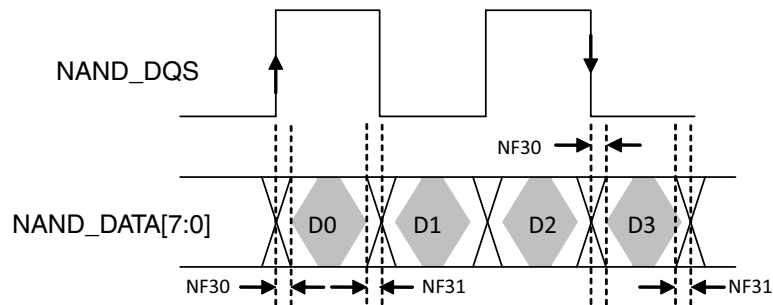

Figure 31. NAND_DQS/NAND_DQ Read Valid Window
For DDR Source sync mode, Figure 31 shows the timing diagram of NAND_DQS/NAND_DATAxx read valid window. The typical value of tDQSS is 0.85ns (max) and 1ns (max) for tQHS at 200MB/s. GPMI will sample NAND_DATA[7:0] at both rising and falling edge of an delayed NAND_DQS signal, which can be provided by an internal DPLL. The delay value can be controlled by GPMI register GPMI_READ_DDR_DLL_CTRL.SLV_DLY_TARGET (see the GPMI chapter of the i.MX 6Solo/6DualLite reference manual). Generally, the typical delay value of this register is equal to 0x7 which means 1/4 clock cycle delay expected. But if the board delay is big enough and cannot be ignored, the delay value should be made larger to compensate the board delay.
- ⁷ Shown in Figure 31, NAND_DQS/NAND_DQ Read Valid Window.
For DDR Toggle mode, Figure 31 shows the timing diagram of NAND_DQS/NAND_DATAxx read valid window. The typical value of tDQSQ is 1.4 ns (max) and 1.4 ns (max) for tQHS at 133 MB/s. GPMI will sample NAND_DATA[7:0] at both rising and falling edge of a delayed NAND_DQS signal, which is provided by an internal DPLL. The delay value of this register can be controlled by GPMI register GPMI_READ_DDR_DLL_CTRL.SLV_DLY_TARGET (see the GPMI chapter of the i.MX 6Solo/6DualLite reference manual). Generally, the typical delay value is equal to 0x7 which means 1/4 clock cycle delay expected. But if the board delay is big enough and cannot be ignored, the delay value should be made larger to compensate the board delay.